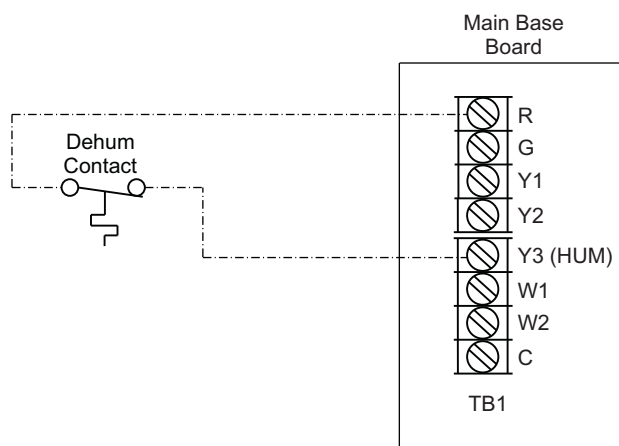

Fig. 60 — Humidistat Connections to MBB (2-Stage SystemVu Units)
5. For 2-Stage SystemVu controller units connect one of the leads from the 2-conductor cable to the Y3 (HUM) terminal on the MBB (Main Base Board). Connect the other lead to the R terminal on the MBB. See Fig. 60.